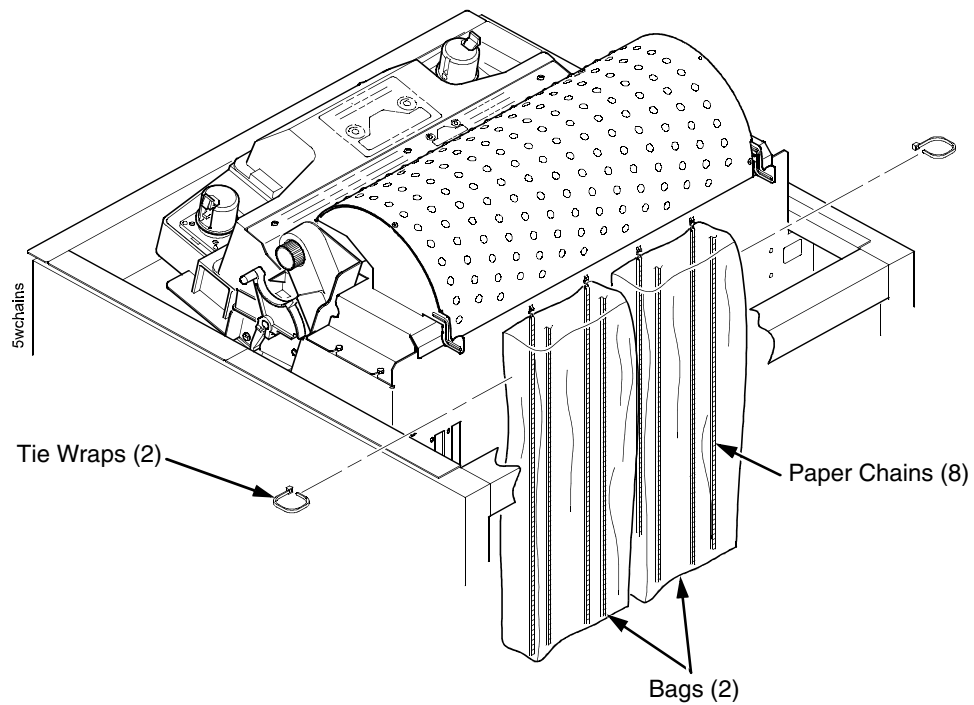

Figure 12. Releasing the Paper Chains
2. Cut the tie wraps and release the paper chains from the bags at the top rear of the printer frame. Remove the tie wraps and bags. See Figure 12.